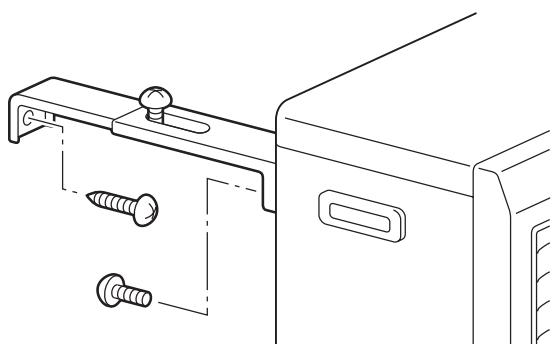

Fig. 15
10. After installation is completed, secure heater to the wall with the wall brackets provided with the heater. Make sure the heater is parallel to the wall (See Fig. 15).